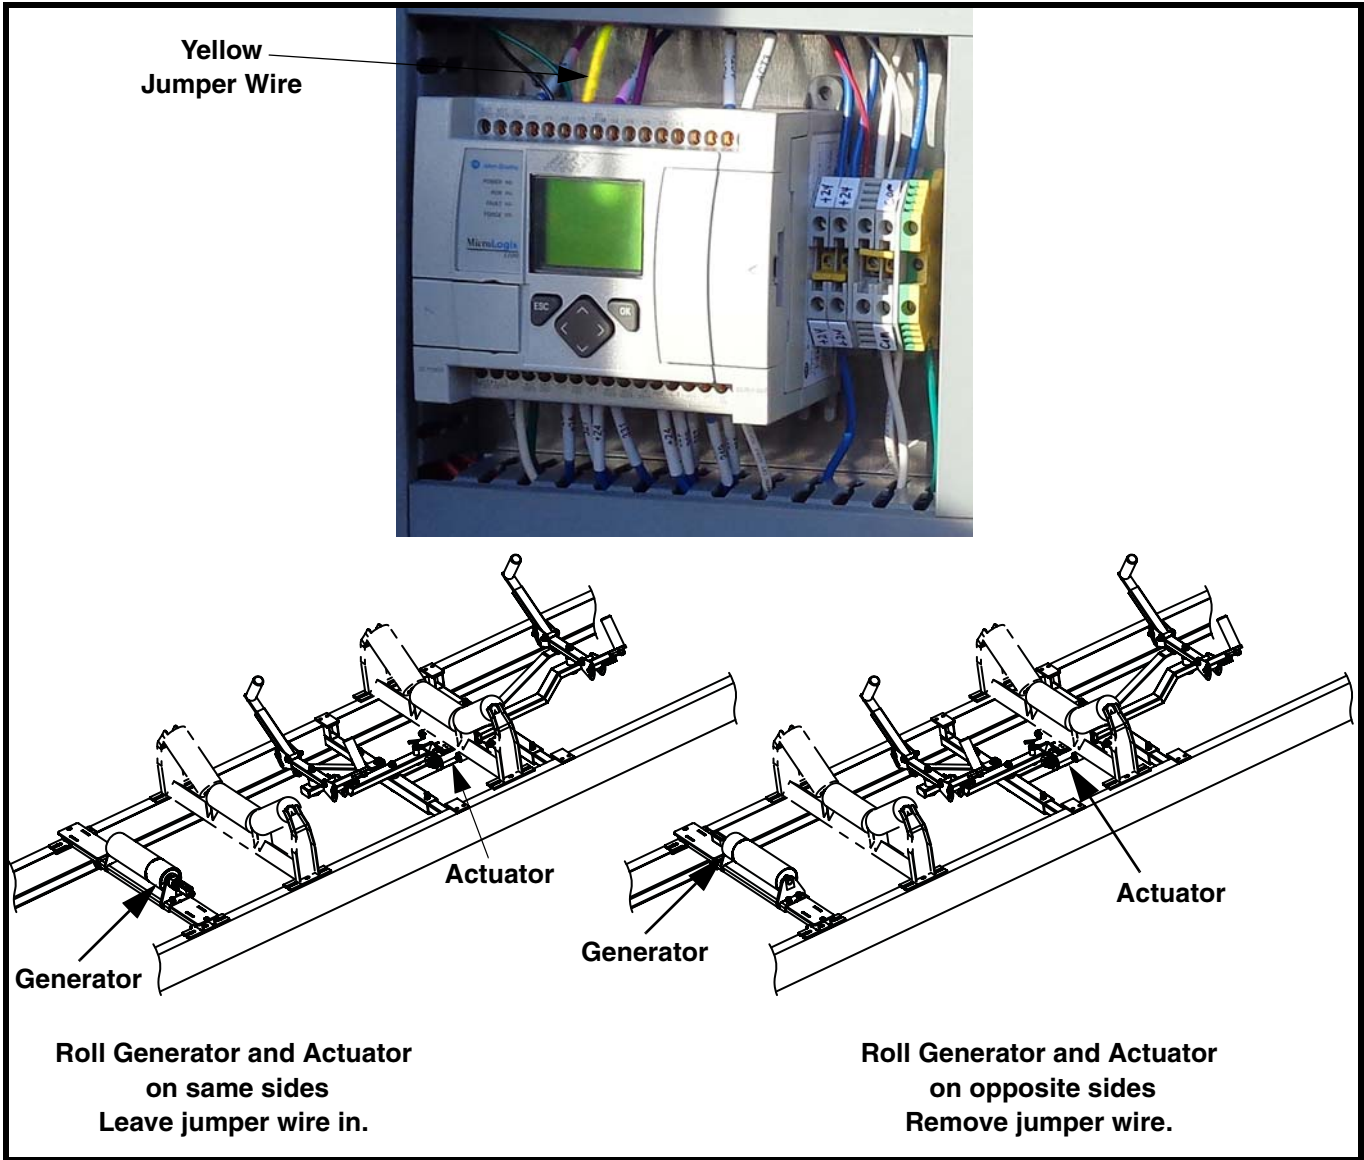

Figure 5. Jumper Wire
4. Remove yellow jumper wire if necessary. Refer to Figure 5.